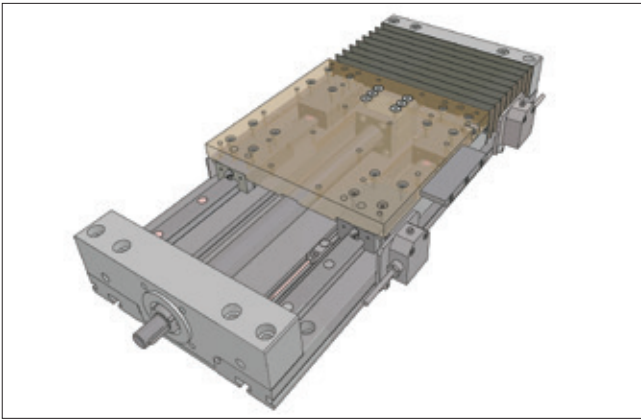

Figure 5.9 __ AXLT with switches
- Optional inside placed inductive switches (Figure 5.9)